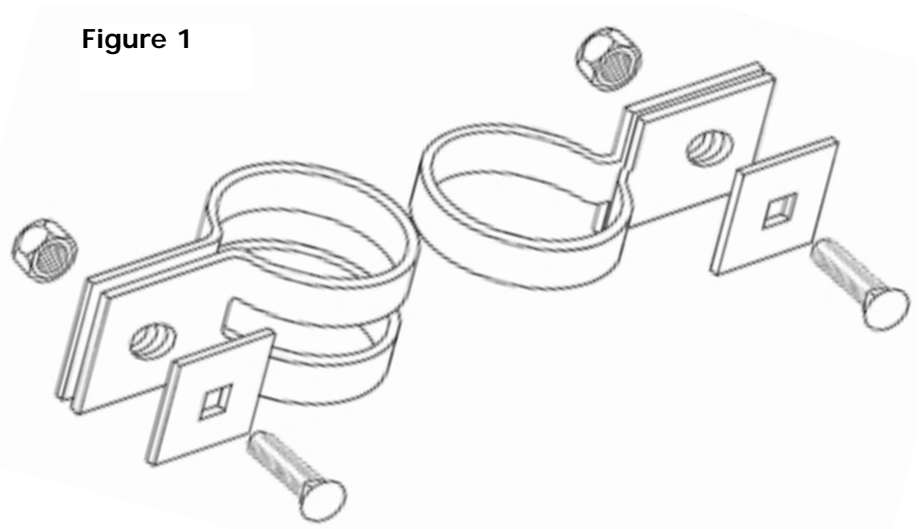

Figure 1
a. Diamond post clamp assembly (Fig 1).